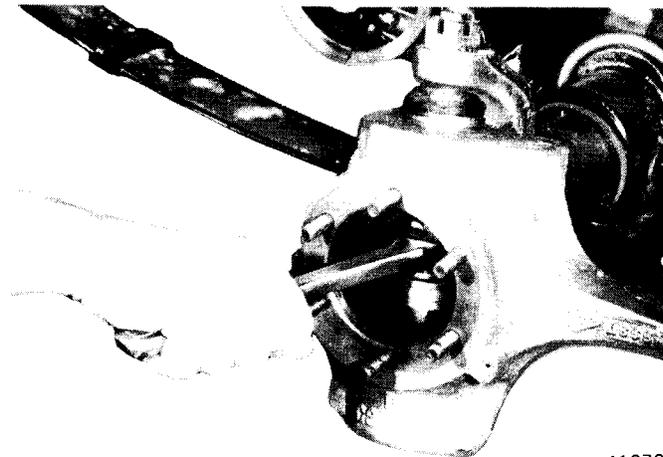

Fig. 10-6 Lower Ball Stud Nut Removal
(1) Remove axle shaft.
(2) Disconnect steering tie-rod end from knuckle arm.
(3) Remove and discard lower ball stud nut (fig. 10-6).
(4) Remove cotter pin from upper stud and loosen stud nut until top edge is flush with top of stud.
(5) Unseat upper and lower studs using a lead hammer.
(6) Remove upper nut and knuckle assembly.
(7) Remove upper ball stud seat using Nut Wrench J-25158.